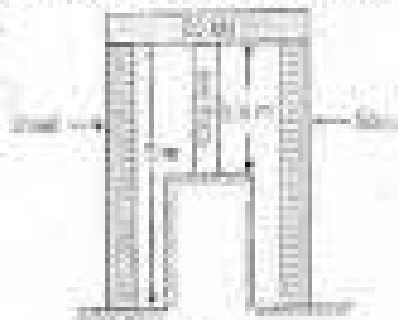

Fig. 1
- Q1) a) Two steel rods and one copper rod each of 50mm diameter together support a load of 60 kN as shown in Fig.1. Take $E_s = 200$ GPa and $E_c = 100$ GPa. [12]
- b) A four bar mechanism is as shown in fig. 1. b. Lengths of various links are: OA = 225 mm, AB = 375 mm, BC = 350 mm and OC = 650 mm. Crank OA rotates at 320 r.p.m. Locate all the instantaneous centres and find. [8]